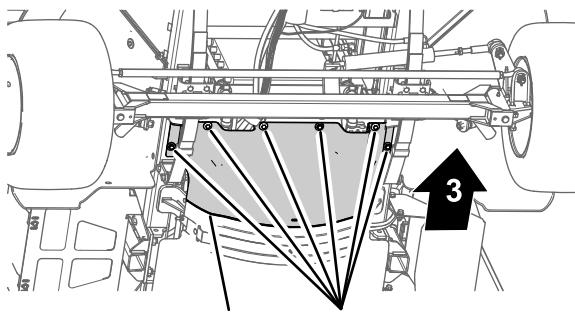

Figure 62
3. Remove the 6 hex-head bolts and 6 washers that secure the front, forward heat shield to the chassis and remove the shield (Figure 62).